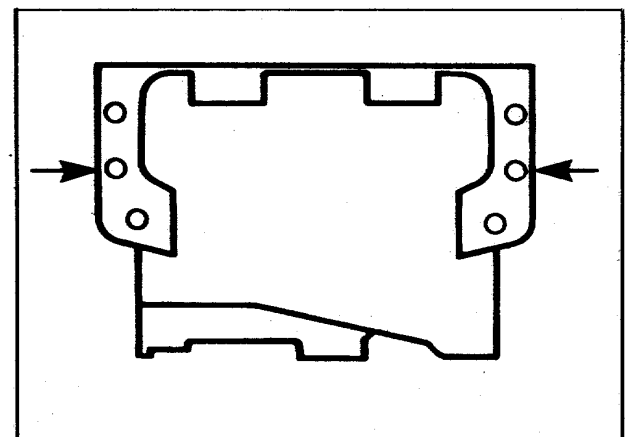

Fig. 14-62. Install Two Capscrews Into The Buttruss End Of The Oil Pan.
- a. Install and tighten the middle capscrew in each of the two buttresses on the flywheel housing, Fig. 14-62.